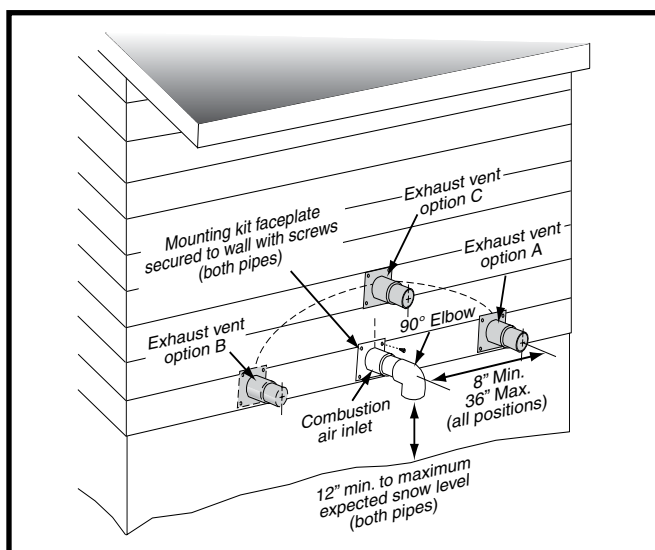
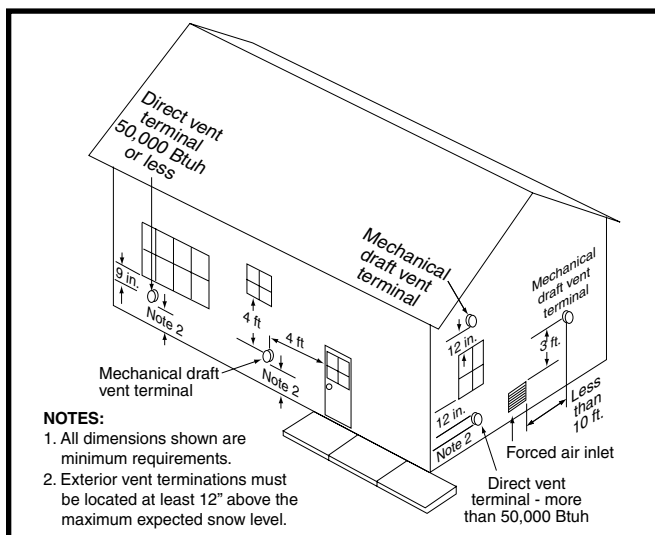
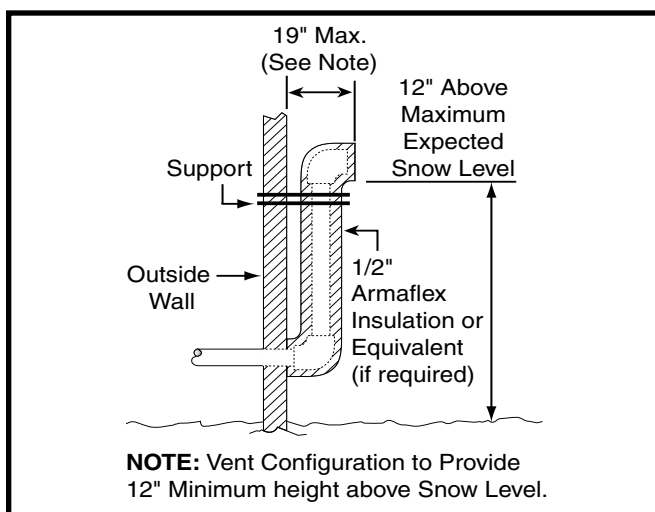
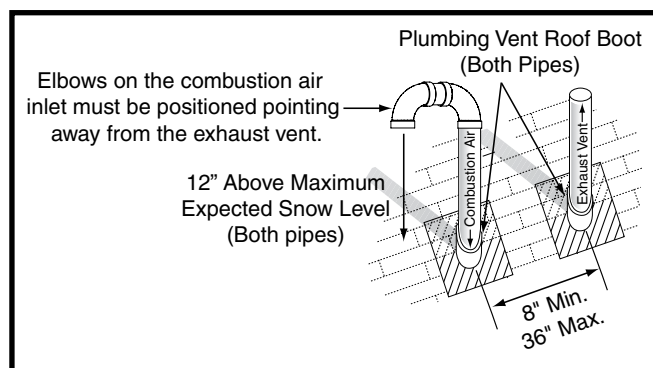

Figure 7. Inlet & Exhaust Pipe Clearances
Figure 8. Vent Locations
Figure 9. Alternate Horizontal Vent Installation
Figure 10. Vertical Vent Termination
- If a Direct Vent (2-pipe) system is used, the combustion air intake and the vent exhaust must be located in the same atmospheric pressure zone. This means both pipes must exit the building through the same portion of exterior wall or roof as shown in Figure 7, Figure 8, Figure 9, & Figure 10 (page 12).
- Vent and combustion air intake terminations shall be installed as depicted in Figure 7 & Figure 8 and in accordance with these instructions:
- All minimum clearances must be maintained to protect building materials from degradation by flue gases. See Figure 7.
- When the vent pipe must exit an exterior wall close to the grade or expected snow level where it is not possible to obtain clearances shown in Figure 7, a riser may be provided as shown in Figure 9. Insulation is required to prevent freezing of this section of pipe. See Table 2 for vent freezing protection.
Termination spacing requirements from the roof and from each other are shown in Figure 10. The roof penetration must be properly flashed and waterproofed with a plumbing roof boot or equivalent flashing. Vent and combustion air piping may be installed in an existing chimney which is not in use provided that:
- The termination clearances shown in Figure 10 are maintained.